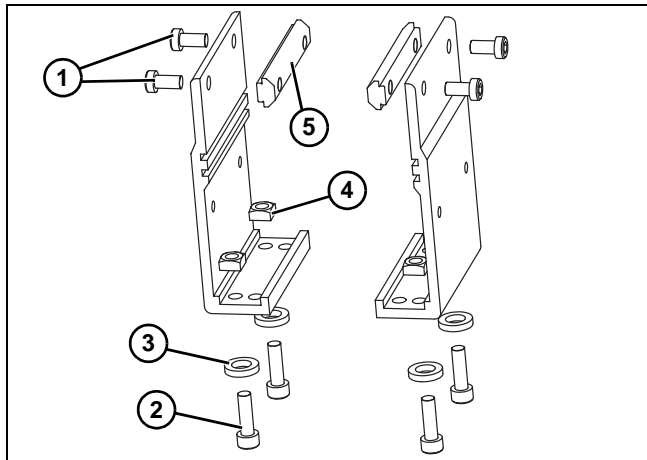
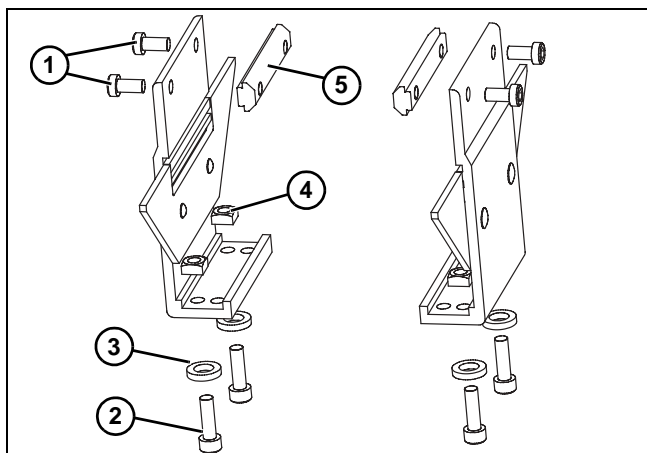
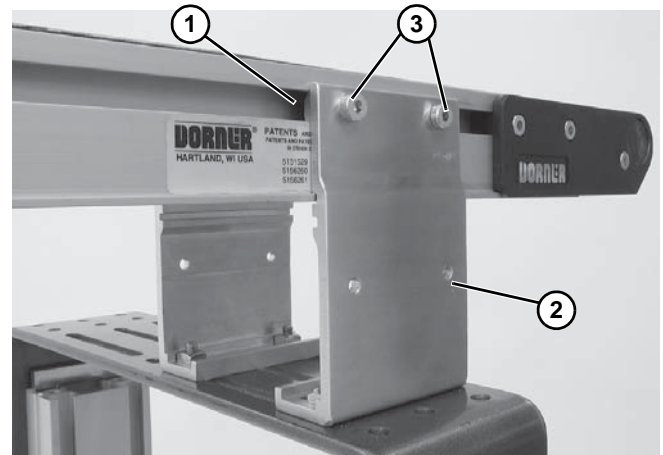

Figure 13
Figure 14
Figure 15
1. Locate brackets. Exploded views shown in Figure 13 & Figure 14.
2. Remove screws (Figure 13, item 1 & 2) & (Figure 14, item 1 & 2), washers (Figure 13, item 3) & (Figure 14, item 3), nuts (Figure 13, item 4) & (Figure 14, item 4), and T-bars (Figure 13, item 5) & (Figure 14, item 5) from brackets.
3. Insert T-bars (Figure 13, item 5) & (Figure 14, item 5) into conveyor side slots (Figure 15, item 1). Fasten brackets (Figure 15, item 2) to conveyor with mounting screws (Figure 15, item 3).
4. Fasten brackets to support stand with mounting screws (Figure 13, item 2), washers (Figure 13, item 3) and nuts (Figure 13, item 4).